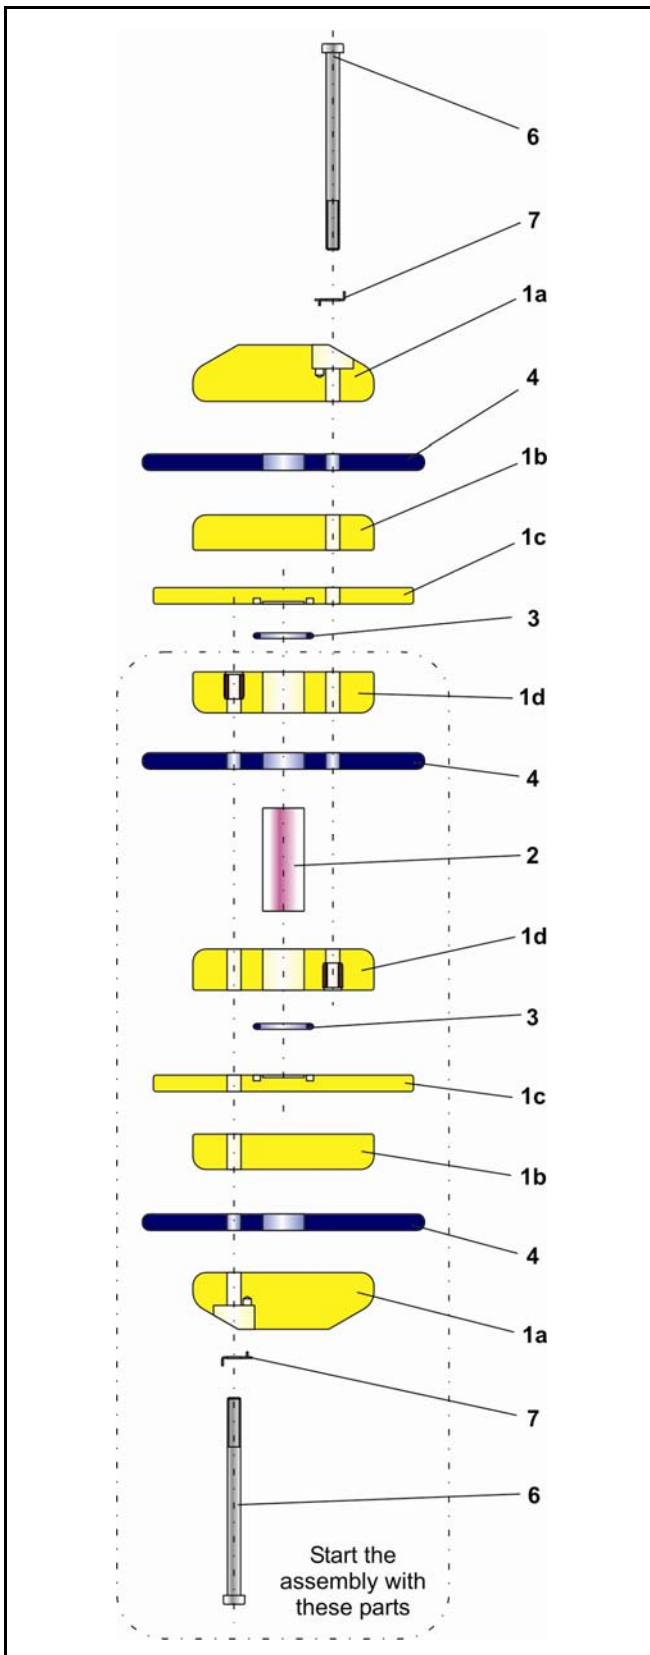

Fig. 8 - Detail drawing of TWIN 5 pig
- Clean all the single parts and check for damage. Replace the sealing lips (4), O-rings (6) and retainer ring (7) with new parts.
- Assemble the pig starting from the center acc. to Fig. 8. We recommend starting with the marked components.